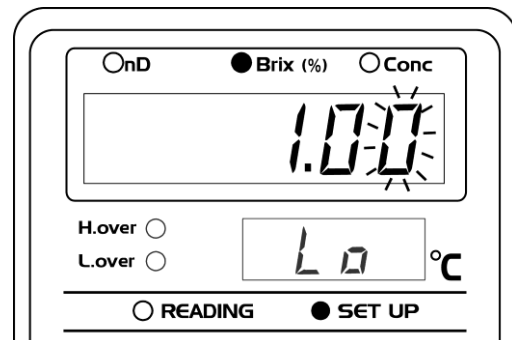

Fig. 11-11
⑤ The temperature display will indicate "Lo" (Fig. 11-11), and the screen for setting the recorder output lower limit will appear.